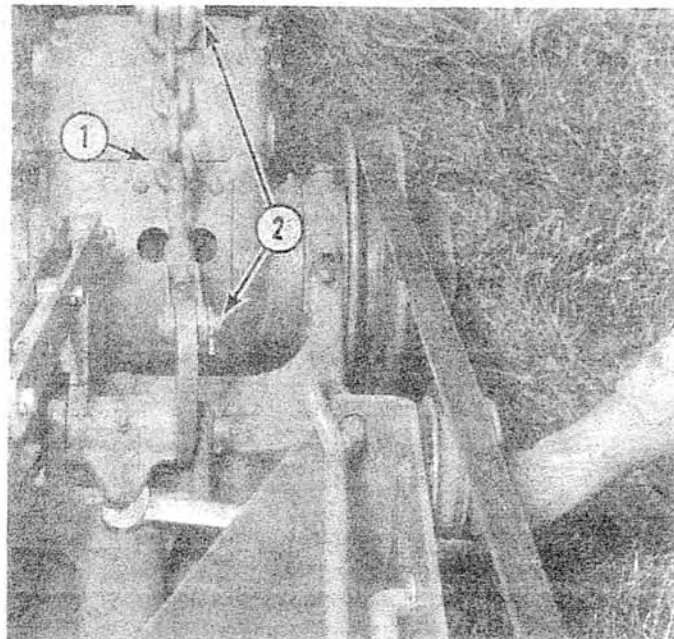

Fig. 25 - Checking Gag Linkage
The gag linkage, see Fig. 25, is one of the components governing inner and outer shoe flotation. The adjustment setting may be quickly checked in the following manner:
2. Take a Massey-Ferguson plow wrench and place the small end between the drag bar and the gag link retaining bracket (bellcrank). This operation is illustrated in Fig. 25. The wrench should just fit snugly between these two points, which should have approximately 3/8 inch clearance. If an MF plow wrench is not available, any suitable object of 3/8 inch thickness may be used.
3. If the linkage is in need of adjustment, remove the clevis pin at either of the extreme ends of the linkage (No. 2, Fig. 25) and screw the threaded eye bolt through the clevis in the required direction until the clearance is set as described in Step 1. Remember to lock the clevis pin, which was removed, with a cotter pin on completing the adjustment.